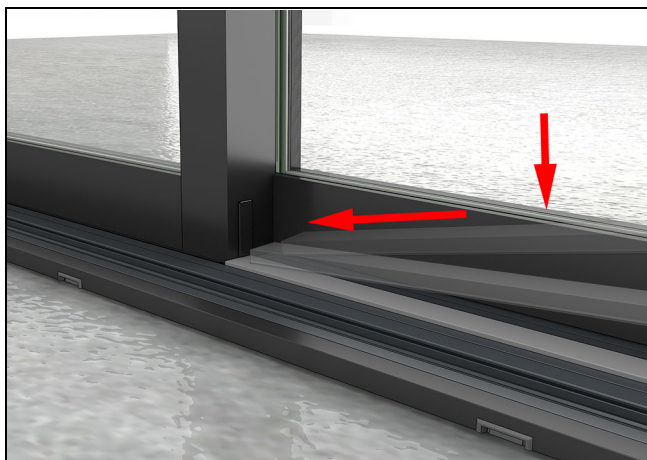
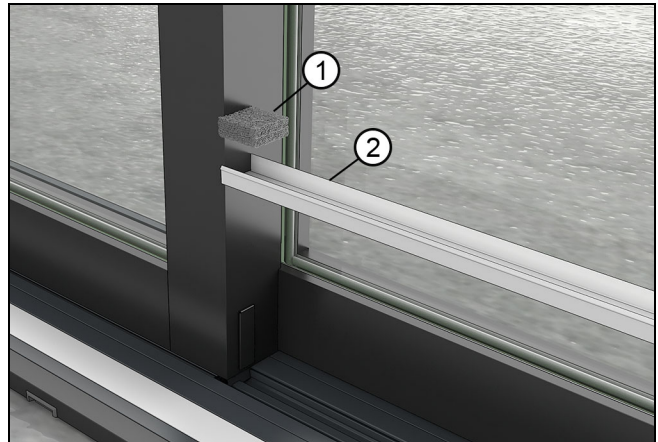
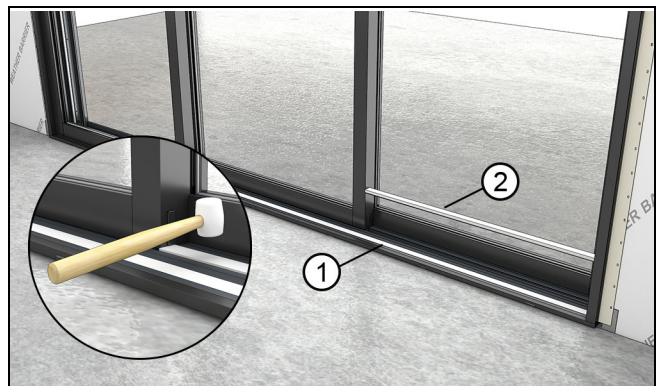

Figure 106
Figure 107
Figure 108
2. Start with the panels closed and locked. The sill covers fit between the pocket panel or secondary panels on the exterior and the jambs. Seat the cover with a rubber mallet. The cover will fit slightly under the stationary panel. See Figure 106, Figure 107 and Figure 108.